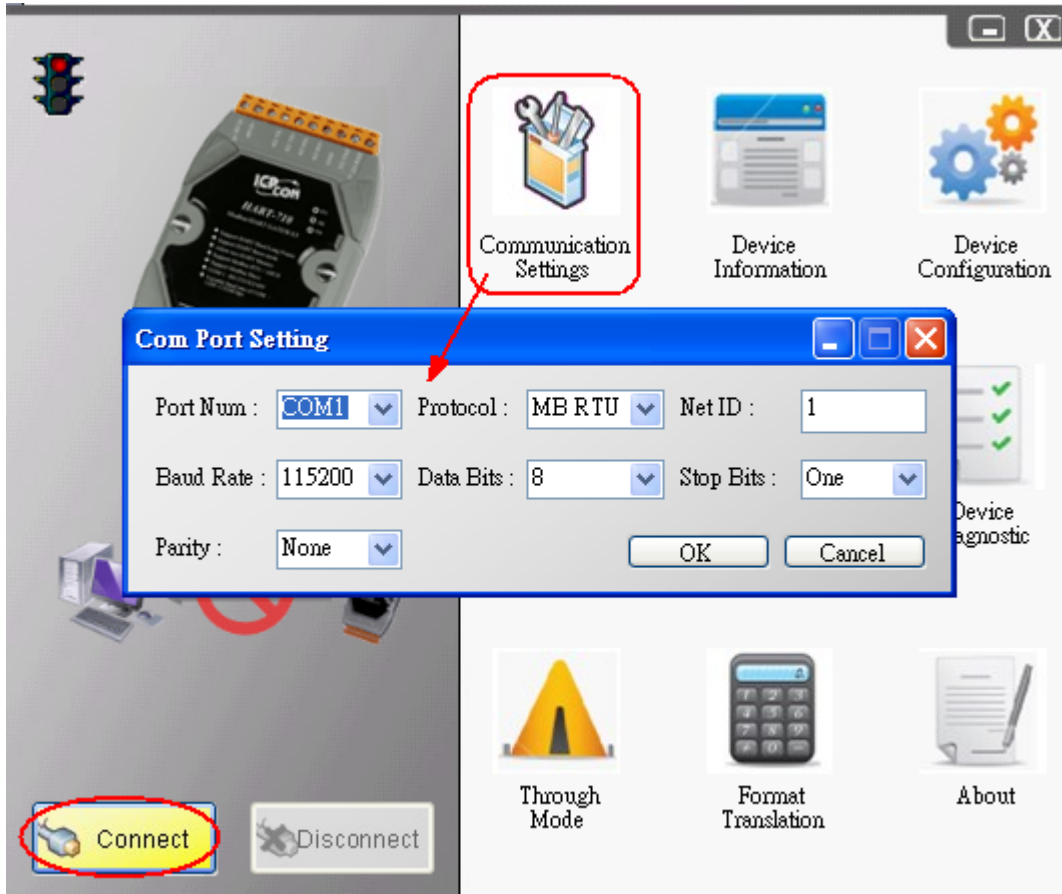

Figure 1-1 Connect to HRT-710
(1) Set the com port parameters.
(2) Click the “Connect” button to connect to HRT-710 module like Figure 1-1.